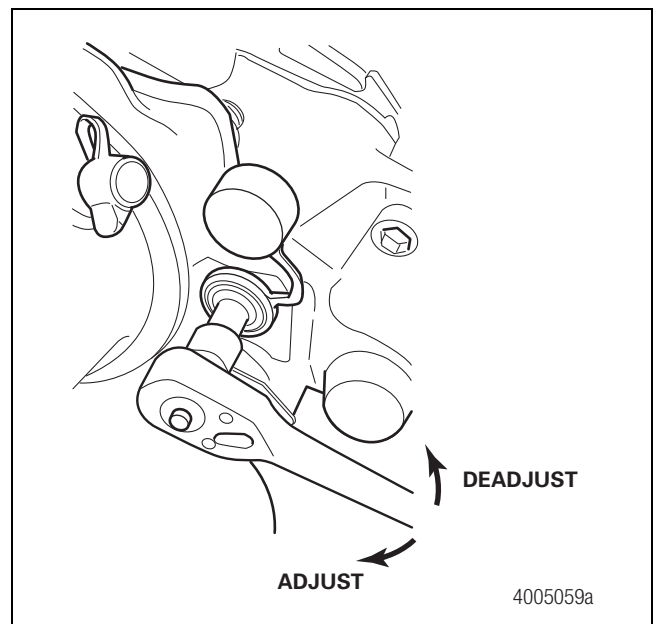

Figure 5.14
- For disc brake wheel ends, back off the brake caliper until the rotor is clear from the pad linings about 1/16-inch (1.588 mm) gap or more. Refer to Maintenance Manual MM-0467, DiscPlus™ EX225 Air Disc Brake, for more information about EX225 disc brake inspection and adjustment. To obtain this publication, refer to the Service Notes page on the front inside cover of this manual. Figure 5.14.